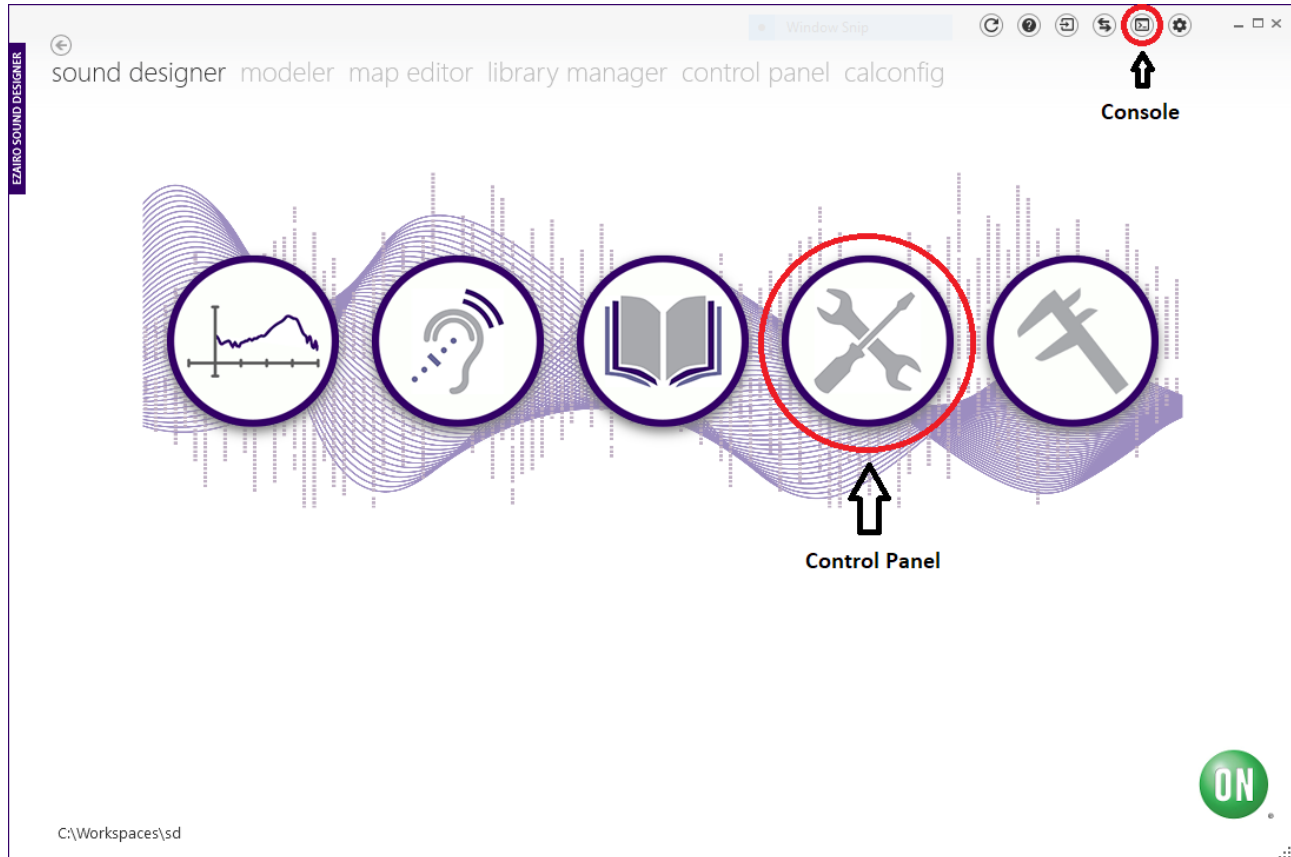
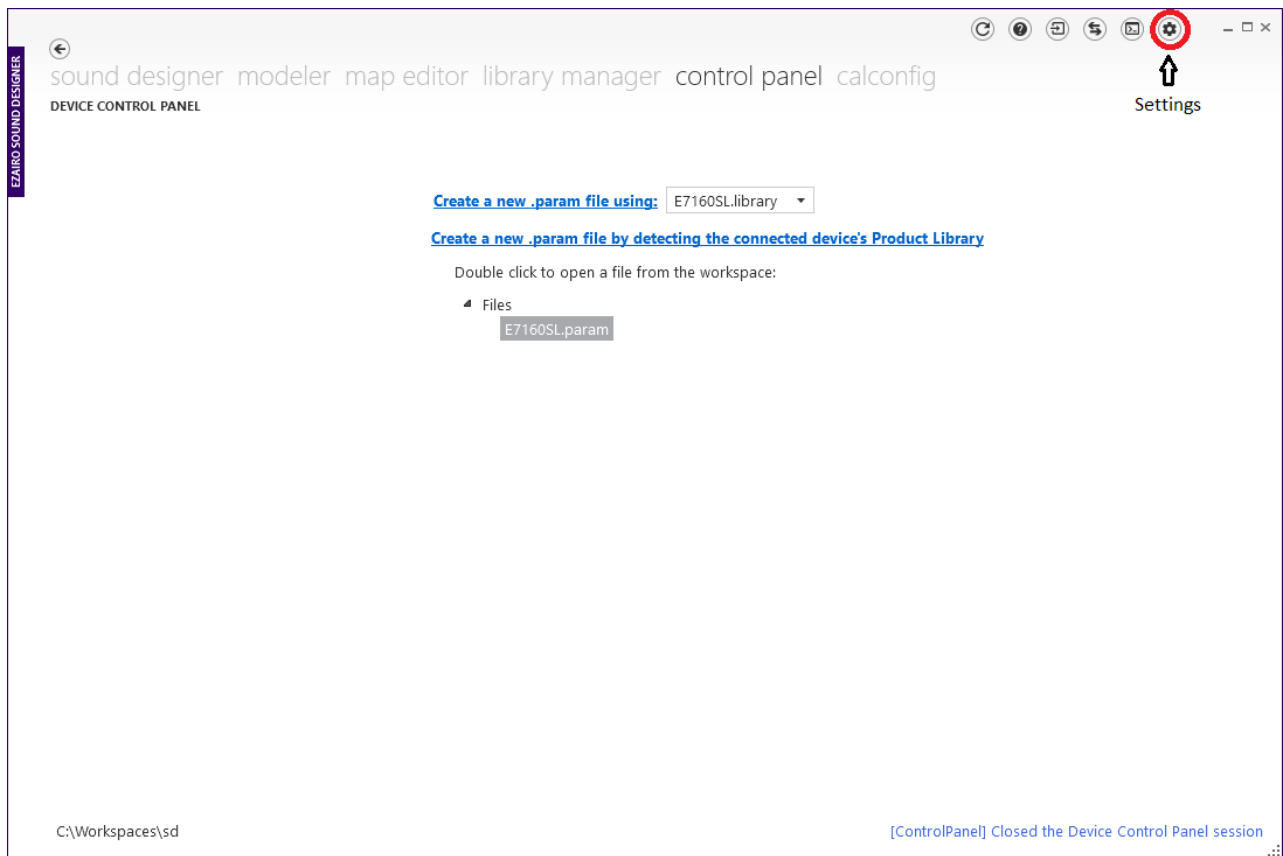

Figure 7. Opening the Control Panel and the Console Window
Figure 8. Selecting the Parameter File
4. Optionally, open the console window by clicking the Show Console icon (shown in the "Opening the Control Panel and the Console Window" figure (Figure 7)). The console window displays error and status messages accumulated in this session. We recommend having the console viewable at all times while using Sound Designer Software, to get immediate status information.
5. To configure device parameters, click on the **Control Panel** icon (circled in red in the "Opening the Control Panel and the Console Window" figure (Figure 7)) and, when prompted, double-click the **Ezairo7160SL.param** sample parameter file to open the demo product library, as shown below in the "Selecting the Parameter File" figure (Figure 8).